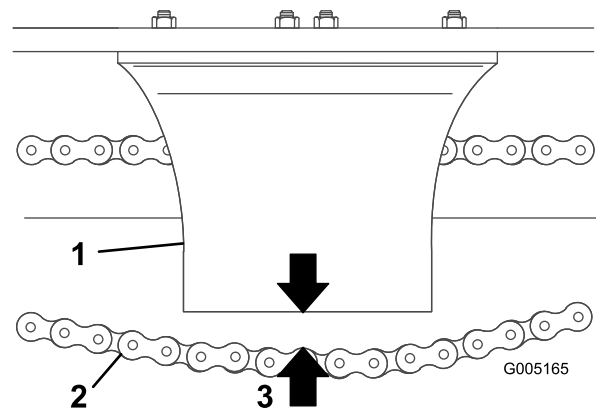

Figure 30
4. Measure the distance between the bottom of the chain guard and the lower chain span (Figure 30). If the slack in the chain is not within 1-1/2 to 2-1/2 inches (3.8 to 6.35 cm), adjust the tension (refer to Adjusting the Tension).
6. Adjust the chain tensioning bolt until the distance between the bottom of the chain guard and the lower chain span is within 1-1/2 to 2-1/2 inches (3.8 to 6.35 cm) (Figure 30).